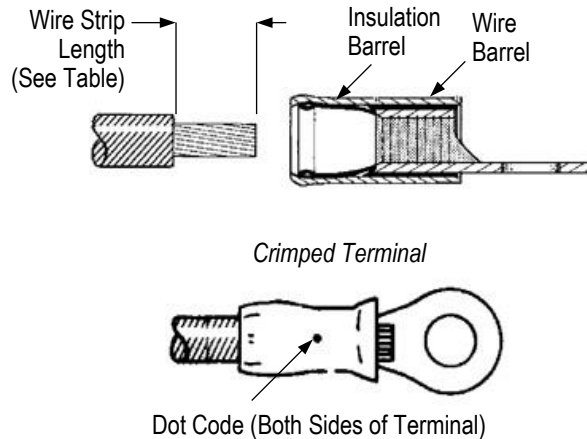

Figure 2
1. Strip the wire to the dimension provided in Figure 2.
- Inspect the crimped terminal for the dot code on both sides of the terminal according to Figure 2.